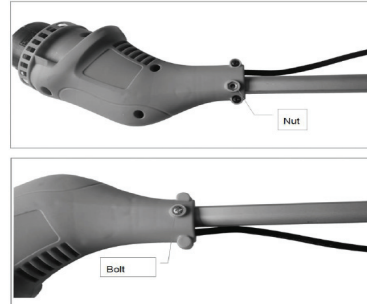

Fig 3
- Insert the bolt into the trimmer head and connection tube and secure with nut. (Fig 3)